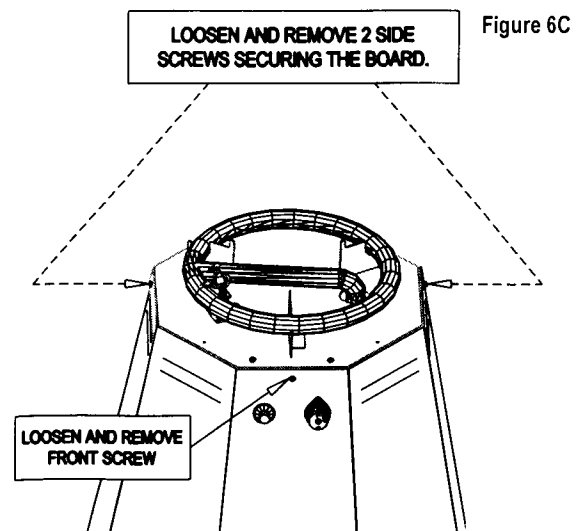

Figure 6C
- Loosen and remove the (2) side and (1) front phillips head screws securing the burner system. See figure 6C.
2. Align the two holes at the side and the hole at the front of the burner system to the corresponding holes on the body of the fireplace. Secure with 3 phillips head screws. Refer to figure 6C on page 12.